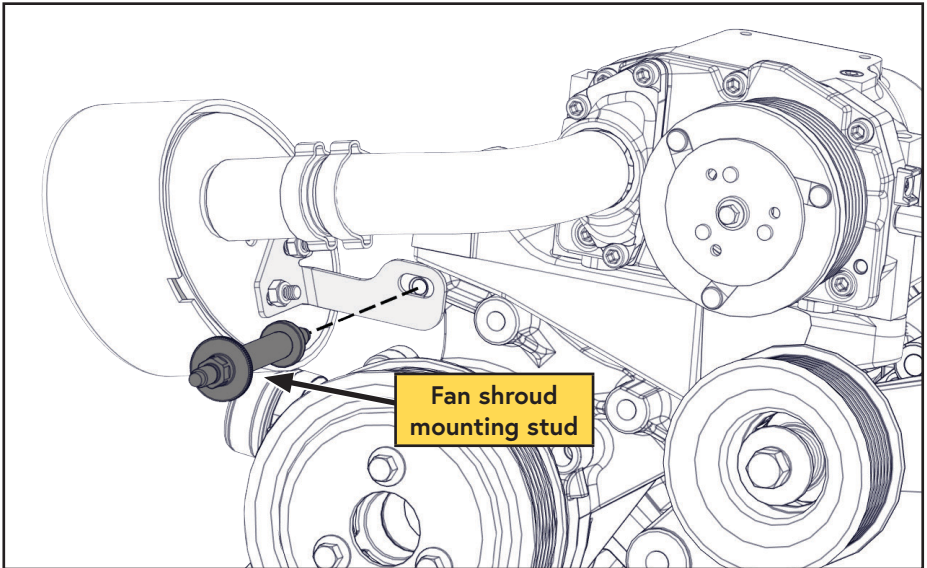

Figure 23 — Securing the filter assembly
- Secure the VMAC air filter bracket in place using the fan shroud mounting stud (Figure 23).